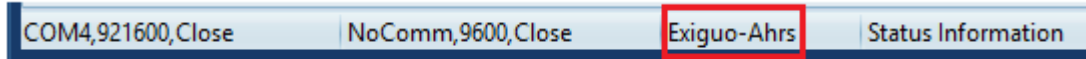

Figure 4 - Device-type status-bar tab
- c. Once the request is received, the device type can be viewed at the status-bar (see: Figure 4).